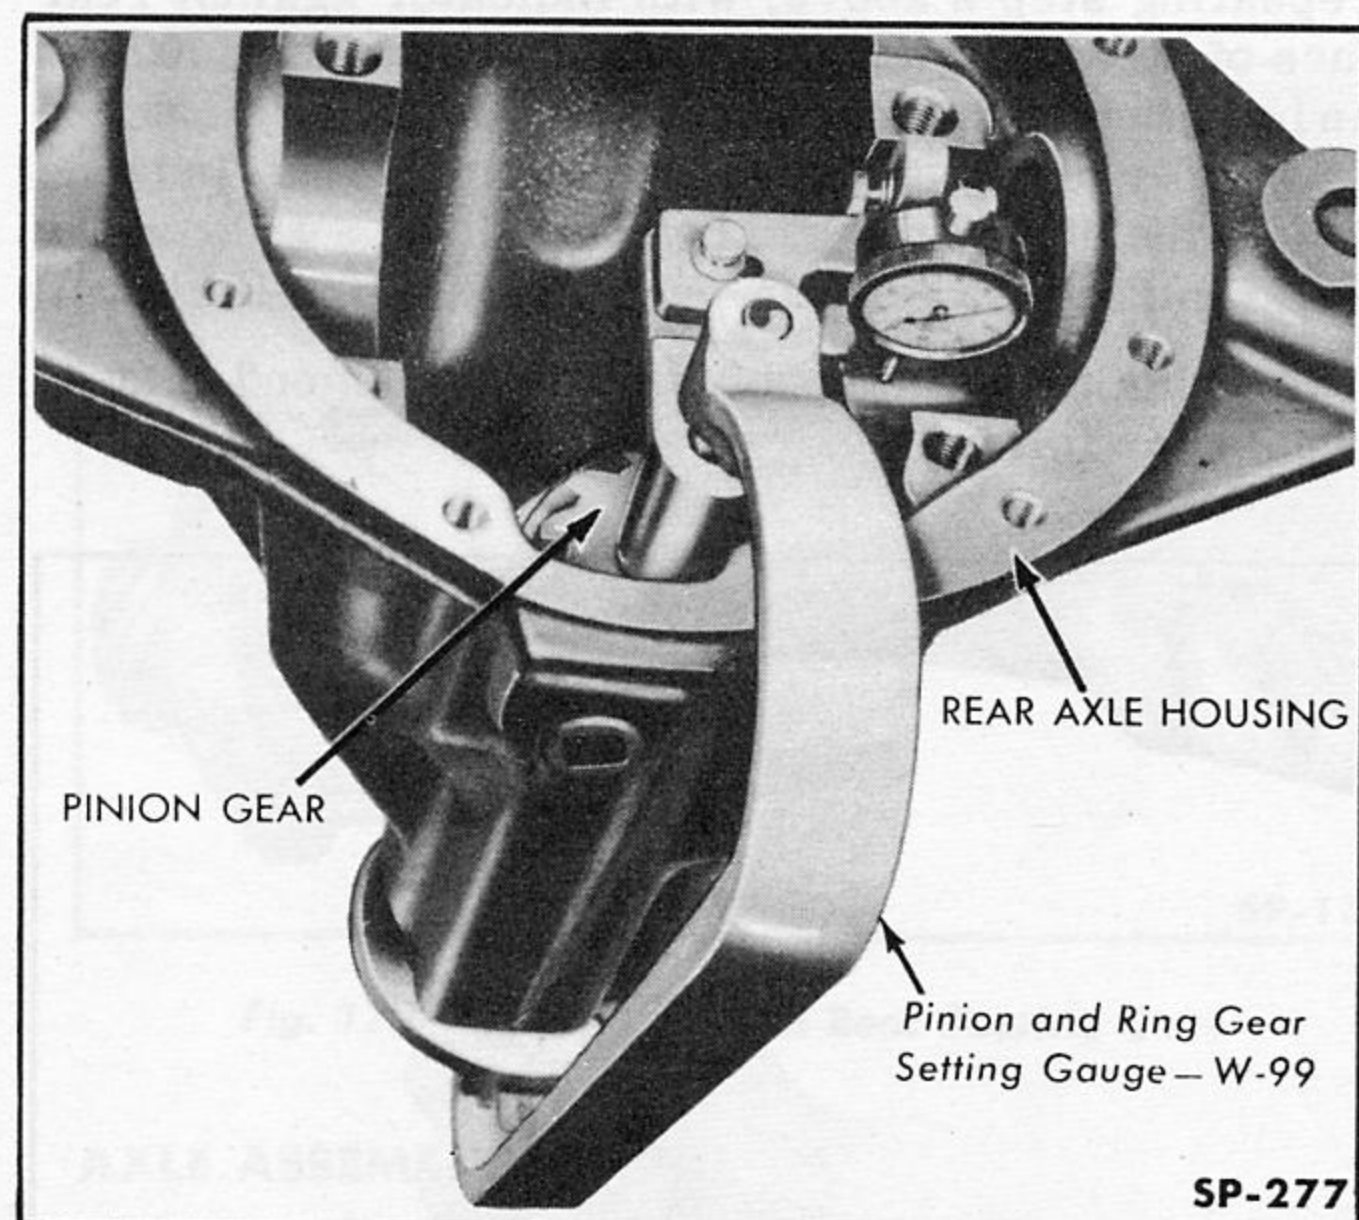

Fig. 184—Pinion to Drive Gear Adjustment
9. Hold the Pinion Center Aligning Fixture on "D" Gauge Block (part of Gauge Set W-99) and set the dial to zero. Then place the Pinion Center Aligning Fixture on pinion shaft centers with dial indicator button contacting bottom surface of bearing bore in differential case as shown in Fig. 184.